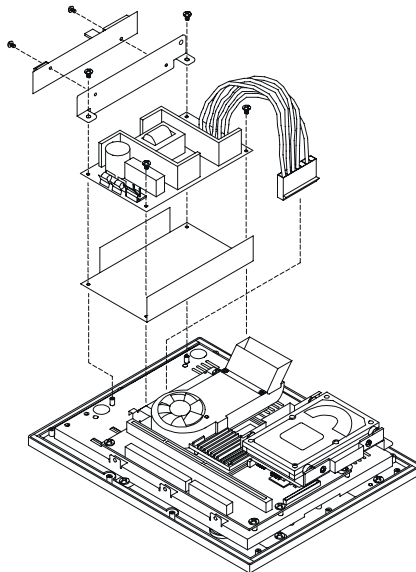

Figure 2-14: Replacing the power supply
1. Disconnect the power cables and remove the four screws to detach the power supply from the panel PC (Figure 2-14).